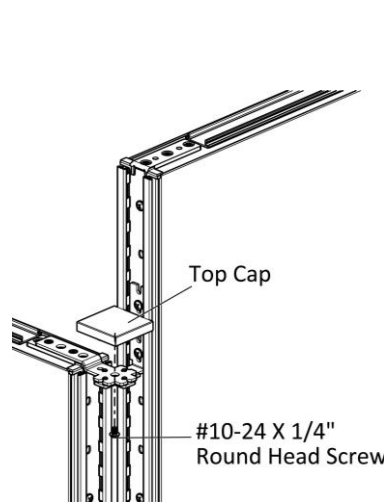

Figure 5
7. Securely fasten the top cap with #10-24 X 1/4" Round Head Screw, (Figure 5).